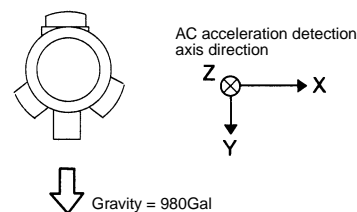

Figure 2A Y-axis FSG measurement ( $\alpha Y_{-980}$ )
(1) Put this unit in the posture shown in Figure 2A.